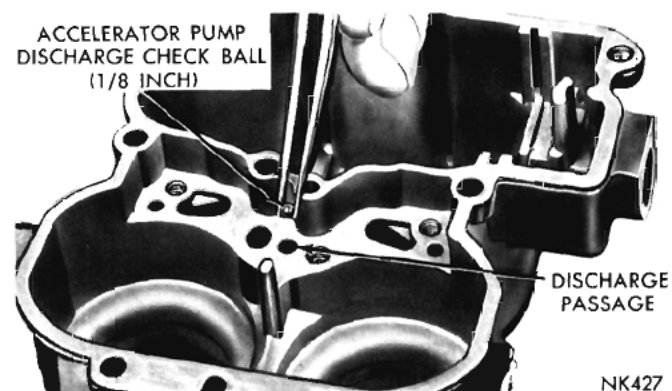

Fig. 13—Installing the Discharge Check Ball
(5) Install the accelerator pump discharge check ball ( $\frac{1}{8}$  inch) in the discharge passage, as shown in (Fig. 13).